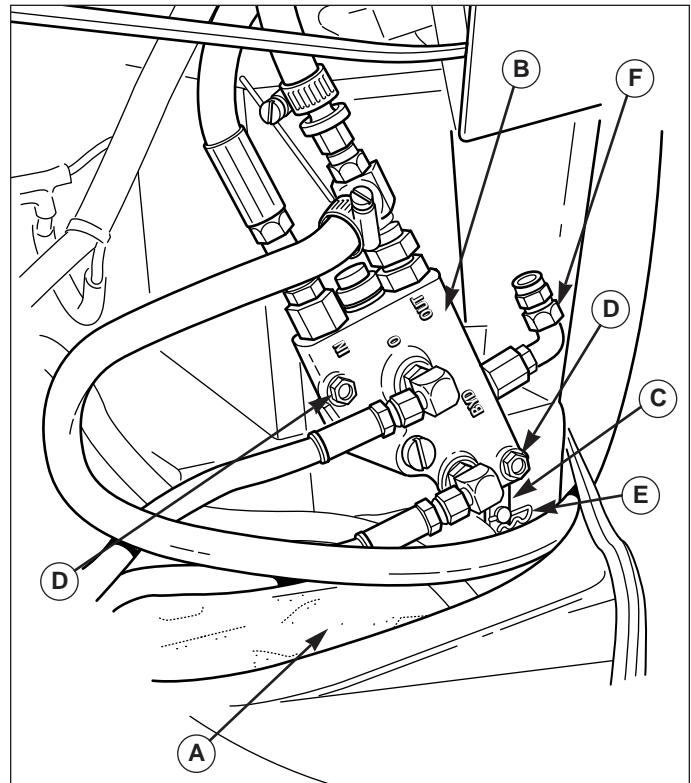

Figure 18. New Master Valve and Fittings
7. Install a new right-angle fitting (F, Figure 18) in the power beyond port of the new valve
8. Connect the actuator arm (C, Figure 18) to the new master valve using a hair pin clip (E) and secure the valve using the two screws (D) removed in step 5.